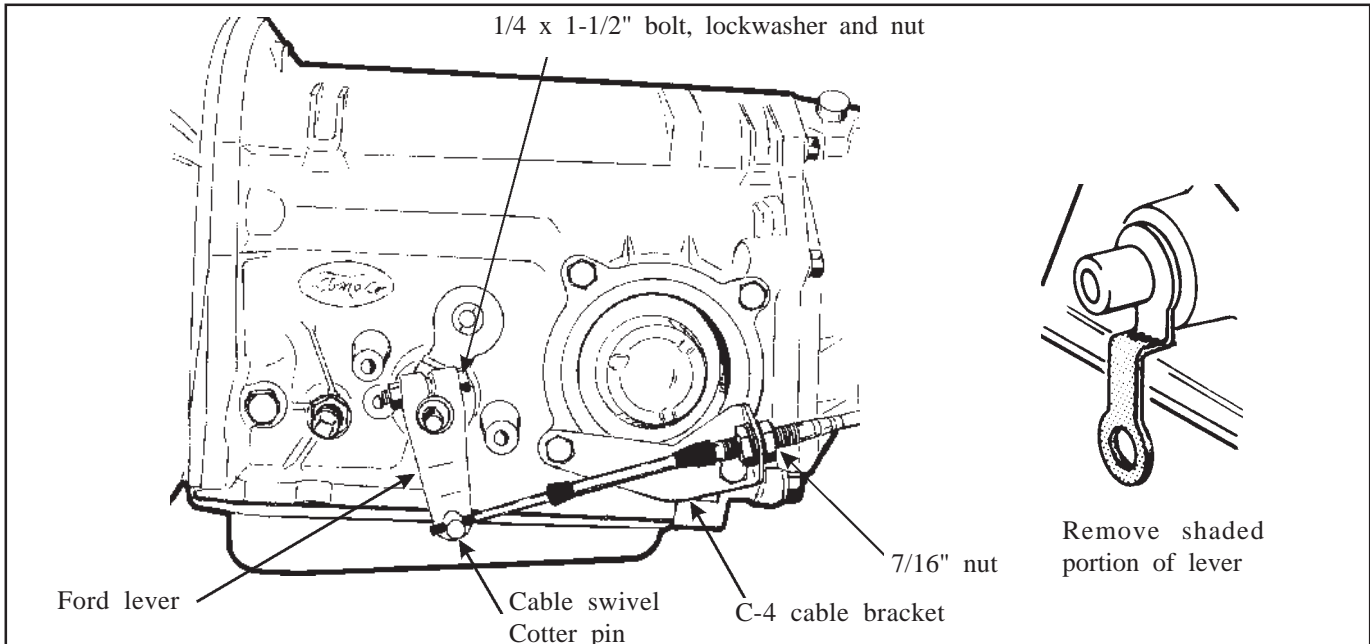

Figure 5
STEP 14. Install the **B&M** selector lever, see **figure 5 or 6.** Note: The B&M lever must point downward for proper operation. If the stock shift lever on your transmission points down, you will have to remove the lower part of the stock arm by cutting it off to clear the **B&M** lever, see **figure 5.** Install **B&M** selector lever onto shift shaft of transmission. Align selector lever so when it points straight down it travels equal arcs in both directions from center, then tighten $\frac{1}{4}$ "-20 x $1\frac{1}{2}$ " pinch bolt and nut. The lever should travel smoothly
C-4, C-5: Remove the two lower bolts from the rear servo cover. Install cable bracket in position, see **figure 5**. Install two servo cover bolts as removed and tighten 12-13 ft. lb. Do not overtighten as this can distort servo cover.